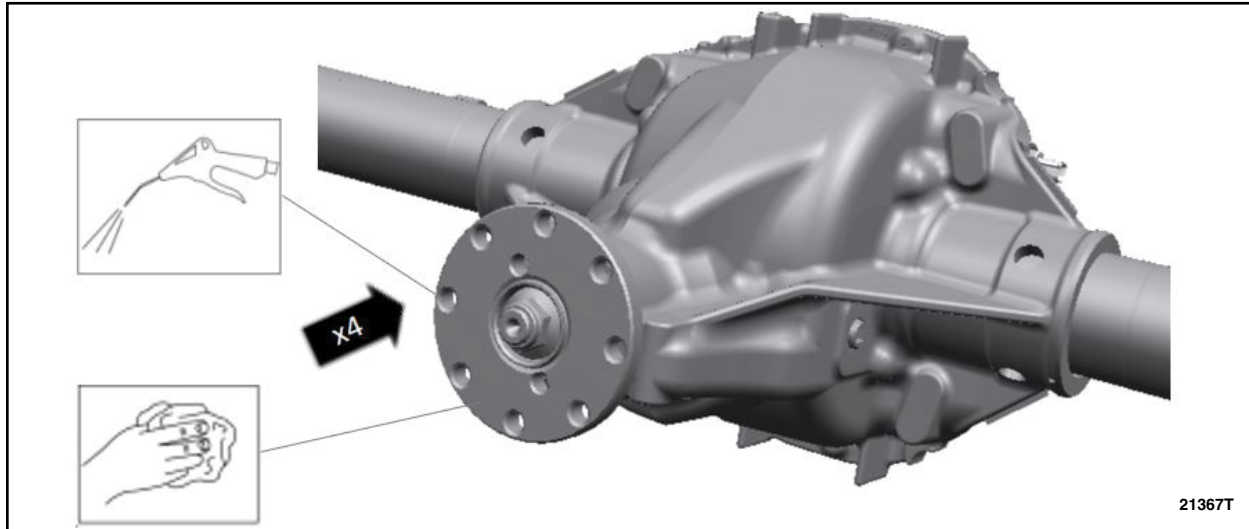

FIGURE 11
19. Using an air blow gun, remove any debris from threaded holes in axle flange. See Figure 11.